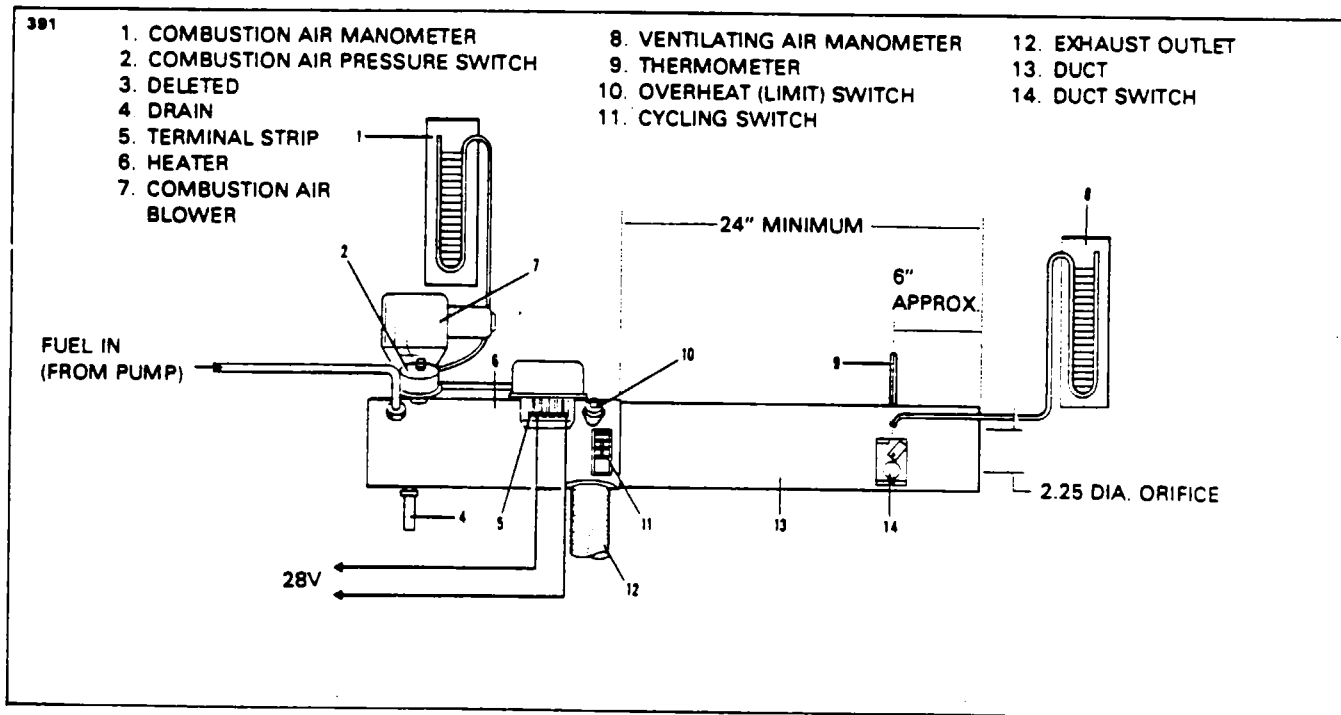

Figure 21-11. Suggested Setup for Heater Operation Test
EQUIPMENT REQUIRED. (Refer to Figure 21-11.)
6. A piece of duct to be attached to the downstream end of the heater. It should have a minimum length of 24 inches and the same diameter as the heater being tested. A 2.25 inch diameter orifice should be centrally located at the outlet end. An aperture should be provided for the thermometer and duct switch and a static tap should be attached as shown in Figure 21-11.
OPERATIONAL TEST. (Refer to Figures 21-11 or 21-12.)
1. Connect the heater to the test setup as shown in Figure 21-11. Make sure the combustion air blower is mounted securely and that the heater is clamped to its supporting stand.
2. Insert the duct switch in the sheet metal extension tube at the location shown in Figure 21-11.